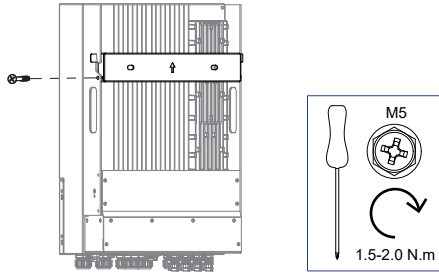

Fig. 2.3 Wall mounted inverter
- Lift the inverter and align the rear bracket of the inverter with the convex of the mounting bracket. Hang the inverter on the mounting bracket and make sure it is secure (see Figure 2.3).